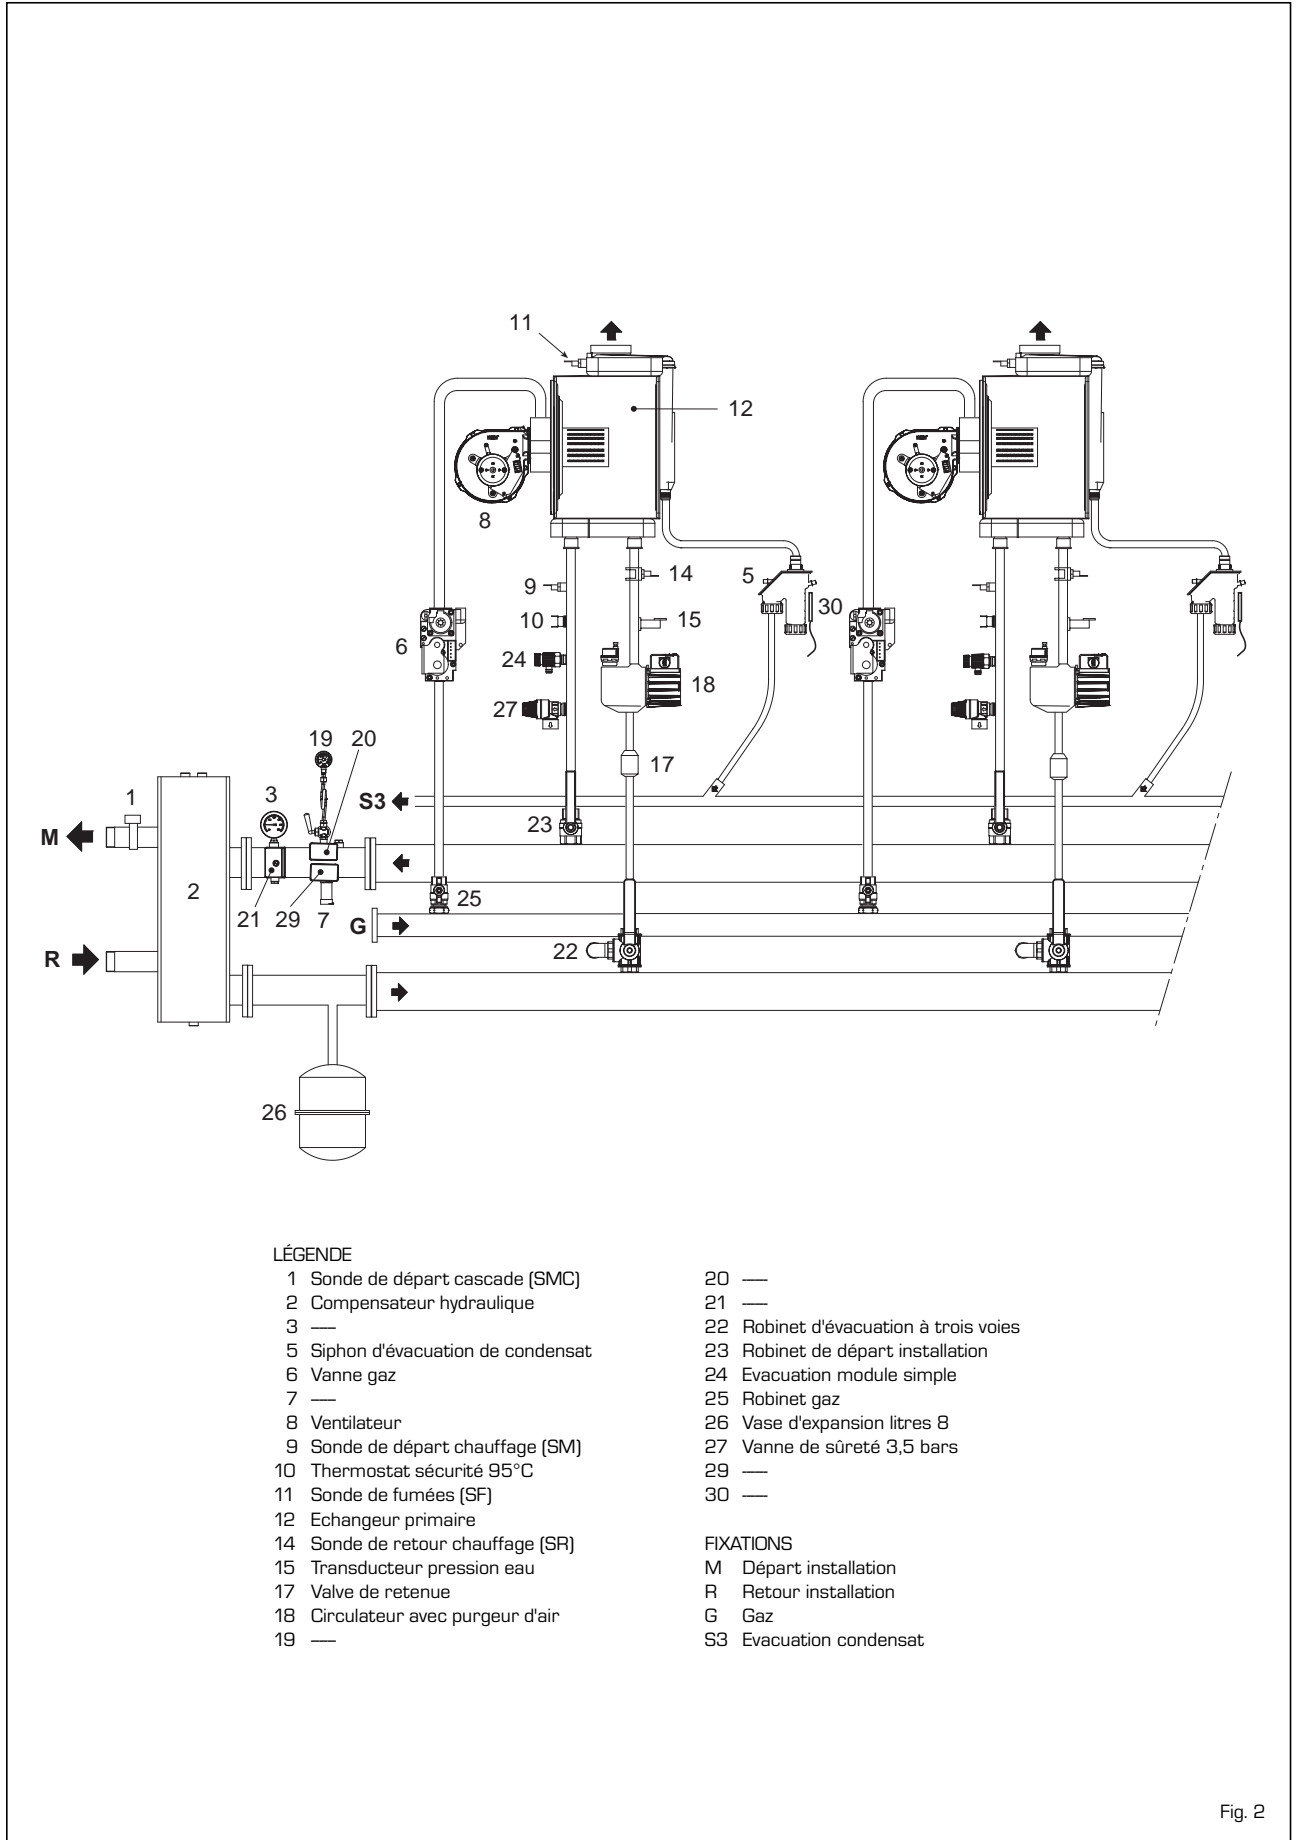

Fig. 2
1.4 CIRCUIT HYDRAULIQUE (fig. 2)